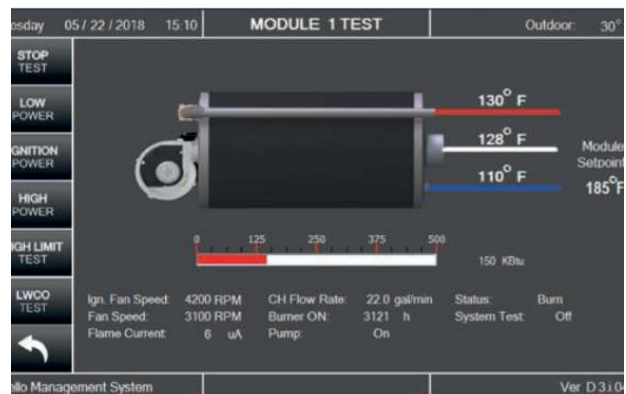

Fig.5 Module Screen - “MODULE TEST” mode
3. Tuning for combustion (See Figs. 5 & 6):